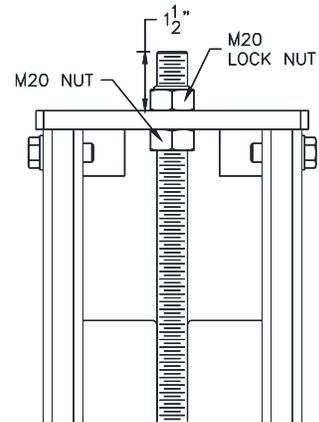

Fig 15 – Lock Ladder Assembly
- 23) Adjust the lock ladder so about $1\frac{1}{2}"$ remains sticking out of the top. Tighten both bolts as shown in **Fig 15** when ladder is properly orientated. Note: When adjusting the lock ladder it may be necessary to loosen or remove the bolts holding the top cap to the column so the bottom nut can be adjusted.